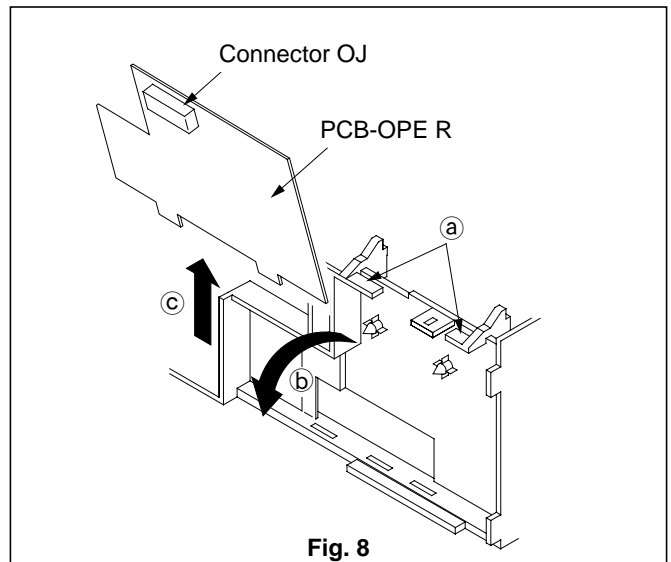

Fig. 8
4. Unfasten the two catches (a) shown in Fig. 8 and rotate the PCB-OPE R in the direction shown by arrow (b) and remove it in the direction shown by arrow (c).